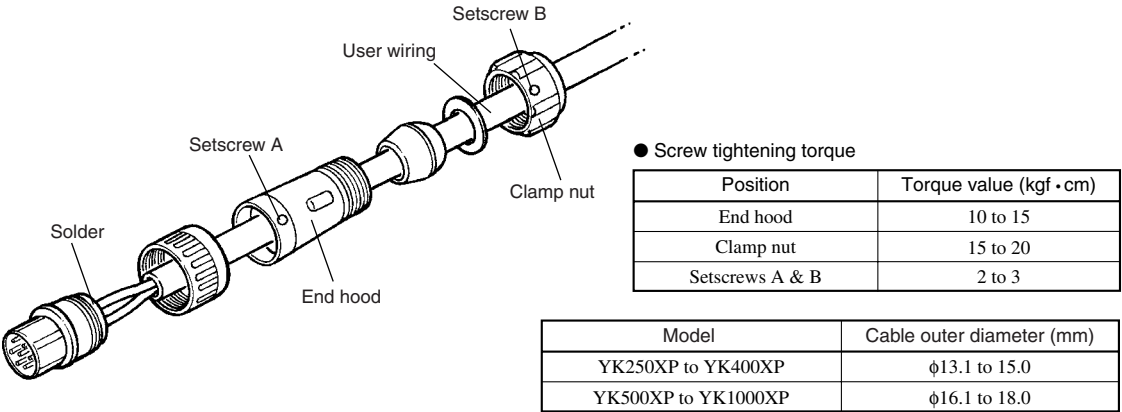

Fig. 3-1
- Solder the user signal wires to the connector as shown in Fig. 3-1 and assemble the connector. Then connect it to the user wiring connector. Tighten each connector screw to the specified torque. When the outer diameter of the cable is small, use tape or an equivalent item to make the section under the cable clamp fatter. Otherwise, moisture and dust will penetrate inside.